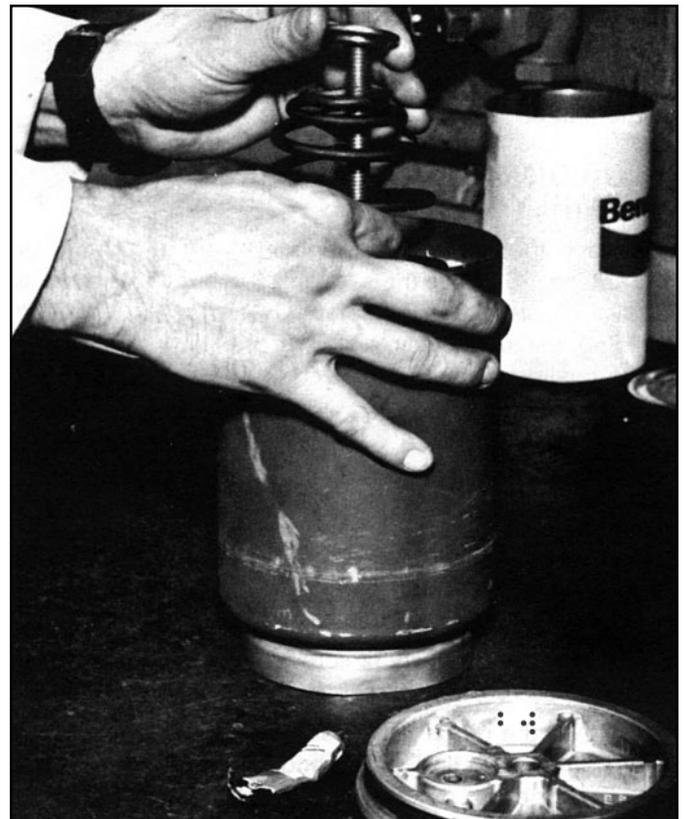

FIGURE 13
10. Place the spring retainer on top of the spring (See Figure 13)